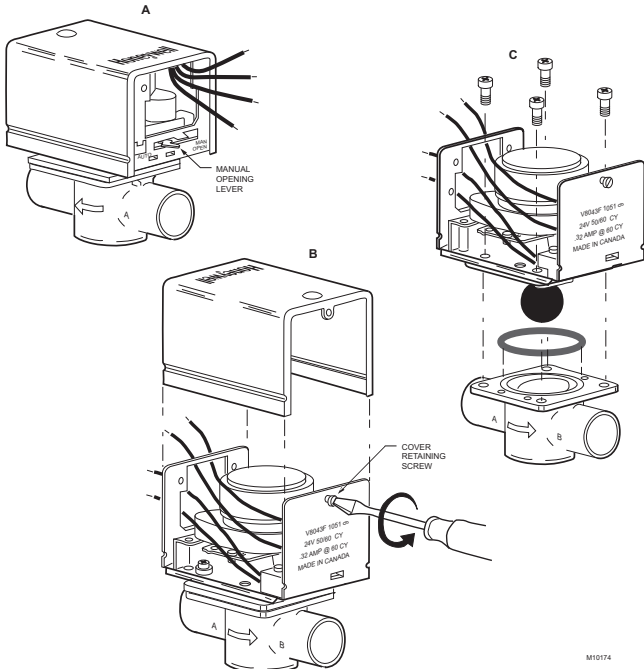

Fig. 4. Remove old powerhead from systems using old style valve bodies
4. Remove the old powerhead from the valve body (Fig. 4)